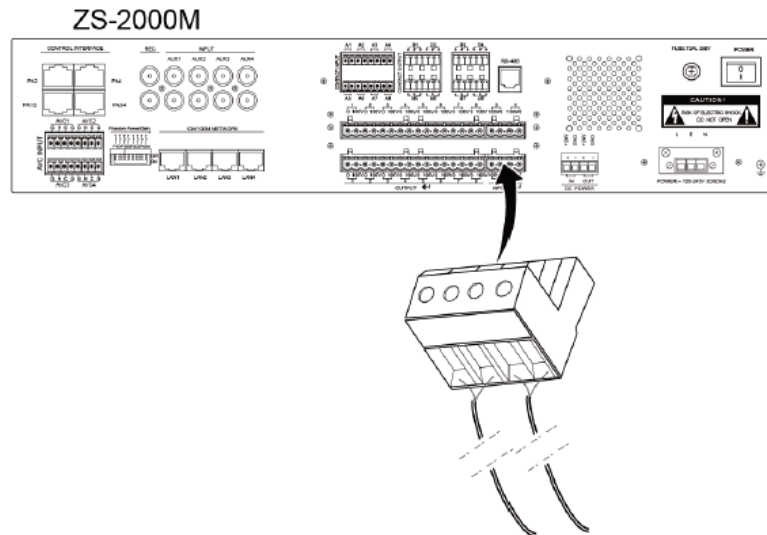

Figure 19 Schematic Diagram of the Audio Input Wiring Terminal Installation
- f. Insert the power amplifier input wiring terminal of the installed audio output cable into the ZS-2000M PA audio input port, as shown in Figure 19.